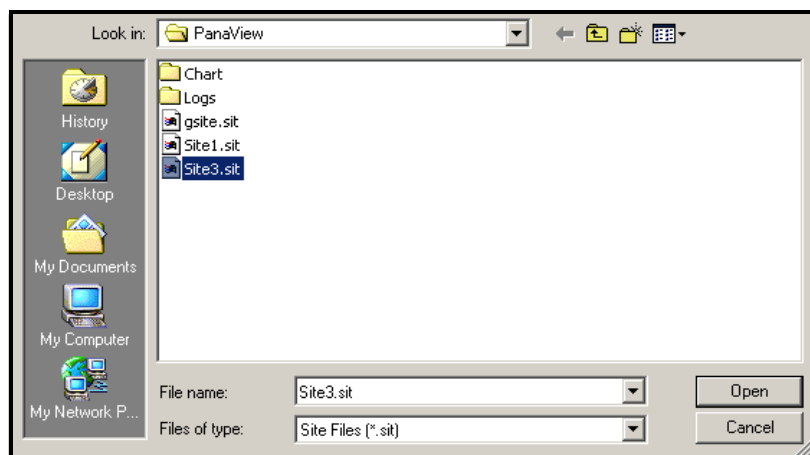

Figure 31: Site File Selection
2. Then click on the *Save Site to Meter* button. A screen opens similar to Figure 31 below.
3. The *Site File Selection* window (Figure 31 on page 106) opens. Highlight a site with the desired settings, and click [Open]. PanaView saves the site in the meter with the new name and the desired settings.
3. The *Site File Selection* window (shown in Figure 31 on page 106) opens. Enter the desired site name (now with a .prt suffix) and click [Save]. PanaView displays a text version of the site, as shown in Figure 33 below.